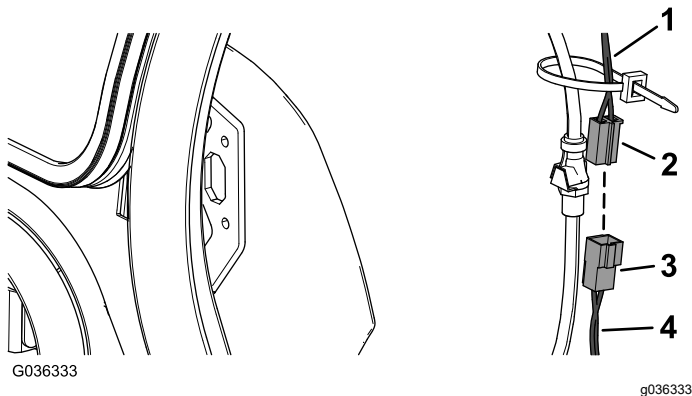

Figure 9
1. Connect the male connector on the kit wire harness to the female connector on the cab wire harness (Figure 9).